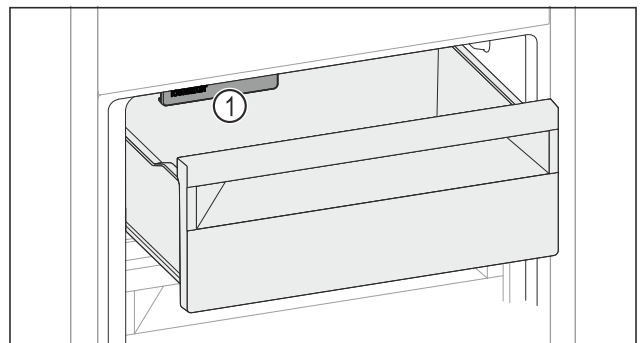

Fig. 126
- ▶ Watch out for the IceMaker Fig. 126 (1).